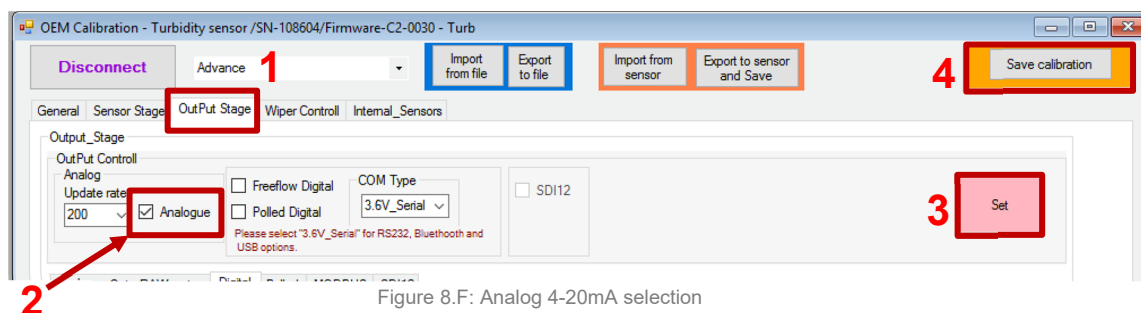

Figure 8.F: Analog 4-20mA selection
- Select “OutPut Stage” option (Figure 8.F: Analog 4-20mA selection#1).